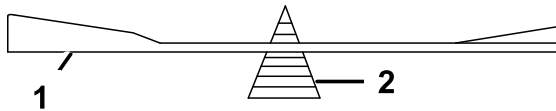

Figure 81
2. Check the balance of the blade by putting it on a blade balancer (Figure 81).
Note: If the blade is not balanced, file some metal off the end of the sail area only (Figure 81).